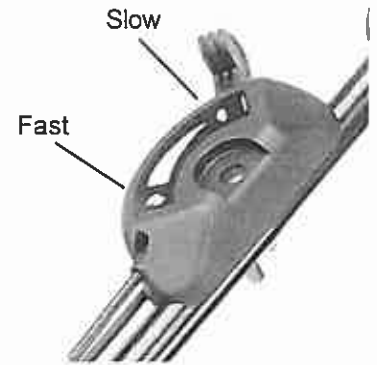

Figure 4
- Move the throttle control to the "Fast" position (Figure 4).
- Move the throttle control lever to the "Slow" position (Figure 4)